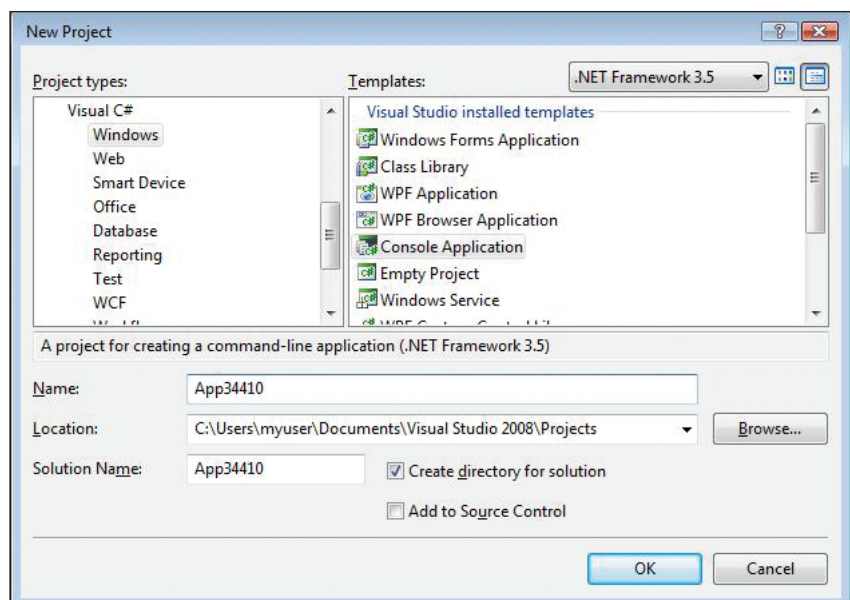

Figure 1.
- Select **File > New... > Project** from the main menu (Figure 1). This opens the **New Project** dialog.